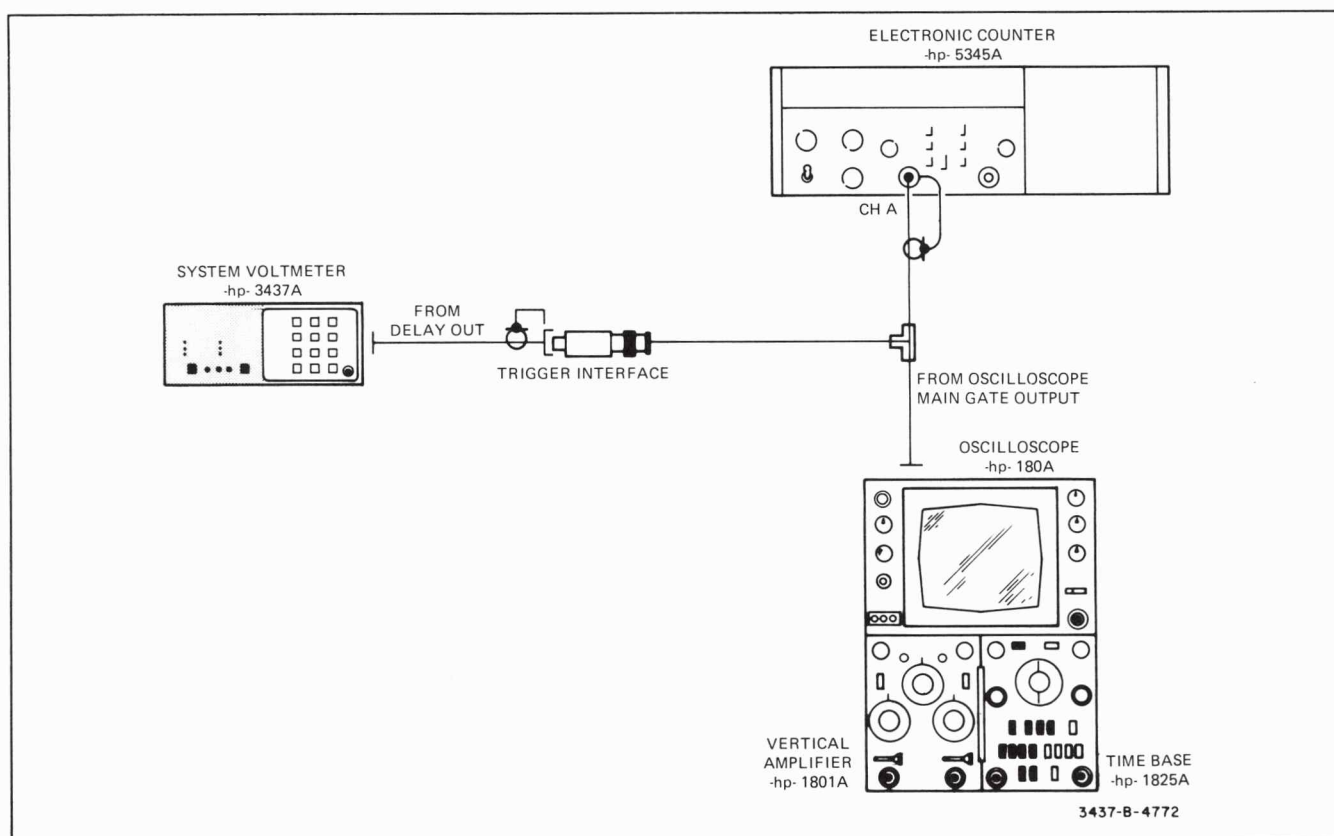

Figure 5-7. NRDGS Test Set-Up.
- a. Connect the equipment as illustrated in Figure 5-7.